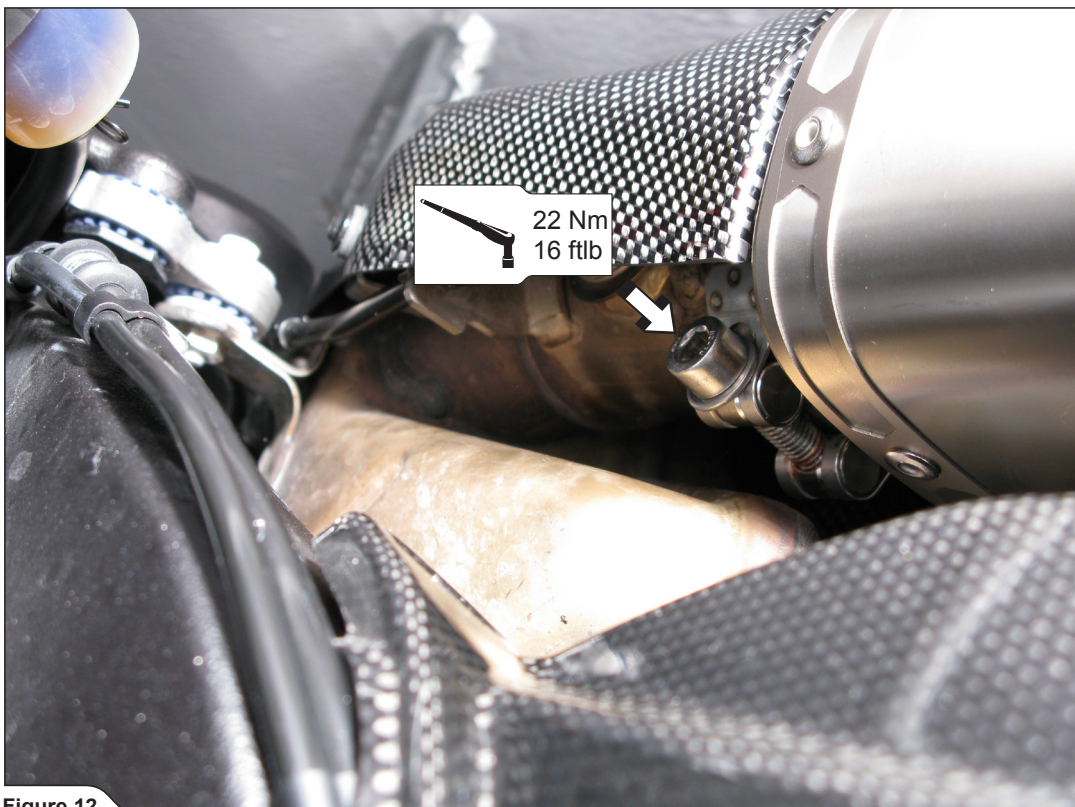

Figure 12
6. Tighten the metal clamp to the specified torque (Figure 12).